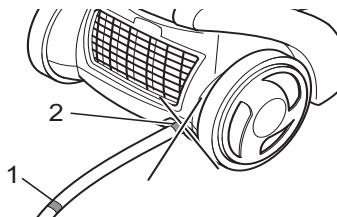

Fig. 10
2. Pull the cable holding the plug (Fig. 1/16) until the yellow mark (Fig. 10/1) is reached.
If the red mark (Fig. 10/2) is visible, then retract the cable again until it is no longer visible, ▷ Chapter 3.2, "Switching off and retracting the power cable". Otherwise the cable can break off. There is a risk of electric shock.